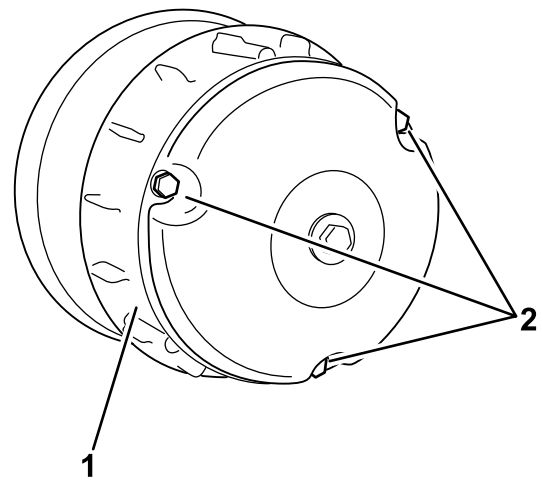

Figure 41
3. Remove the 3 bolts securing the cover to the clutch and remove the cover (Figure 41).